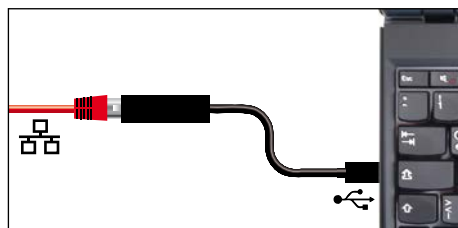

Fig. 8 Converter USB to Ethernet
- ▶ USB to Ethernet converter (Fig. 8). Makes it possible to connect the Ethernet connection interface (see page 12) to the USB port of a computer / laptop.